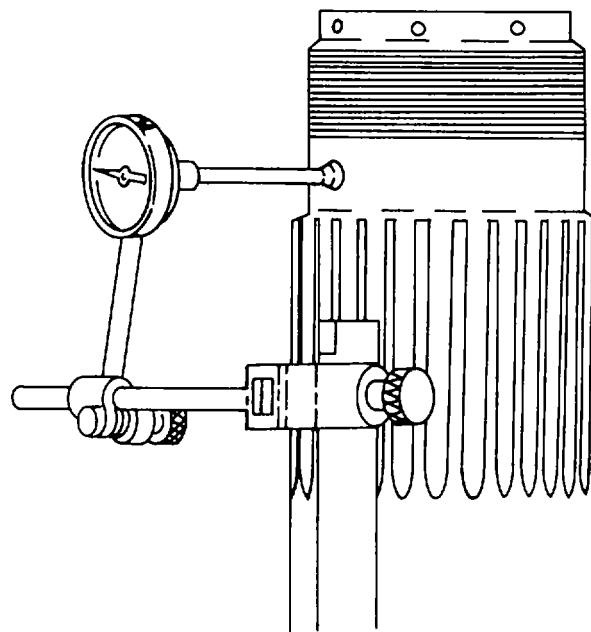

Figure 3-75. Dial Indicator Installed on Propeller Shaft
a. Description. The dial indicator consists of a dial with reading needle and a graduated scale. The dial indicator has a measuring range from 0.001 to 0.200 of an inch. The dial is adjustable and has the reading pointer located on the back of the dial. The indicator can be mounted in various positions using a special clamp and tool post holder which is provided in the dial indicator kit. This assembly is shown in figure 3-75.